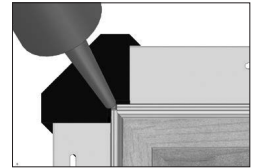

FIG. 7b
- b. Apply a small amount of silicone on the interior side of the small void in the corner of the frame and pad. (Fig 7b). **DO THIS EVEN IF CORNER PADS ARE PRE-INSTALLED.**